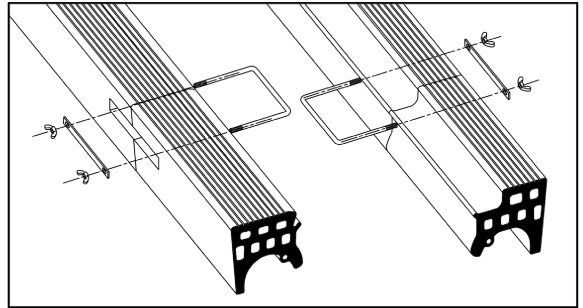

Figure 1
- 1** Layout the Rubber Interface end to end and fasten together with Sure-Lock End Fasteners (Fig. 1)